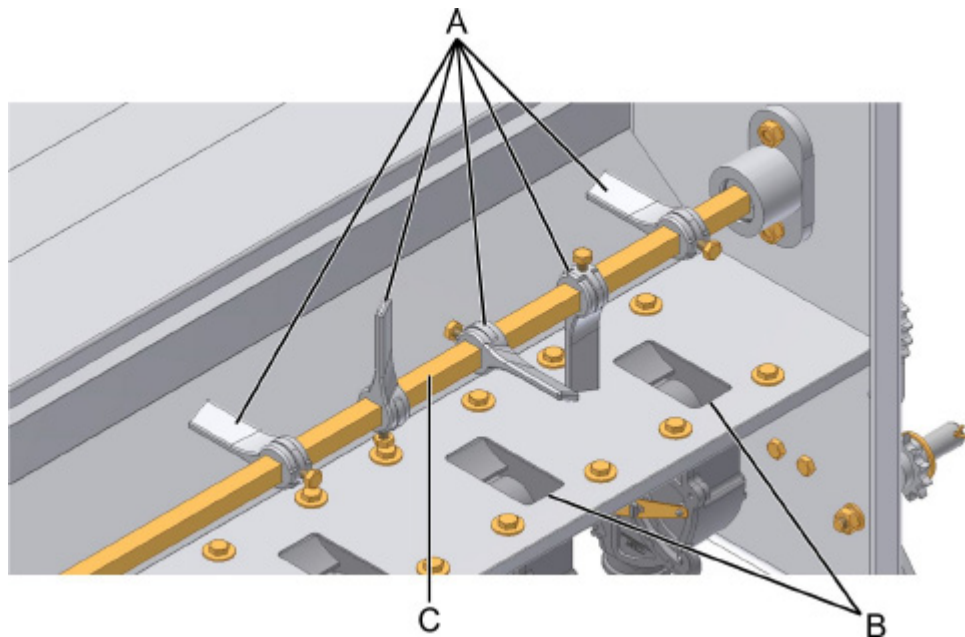
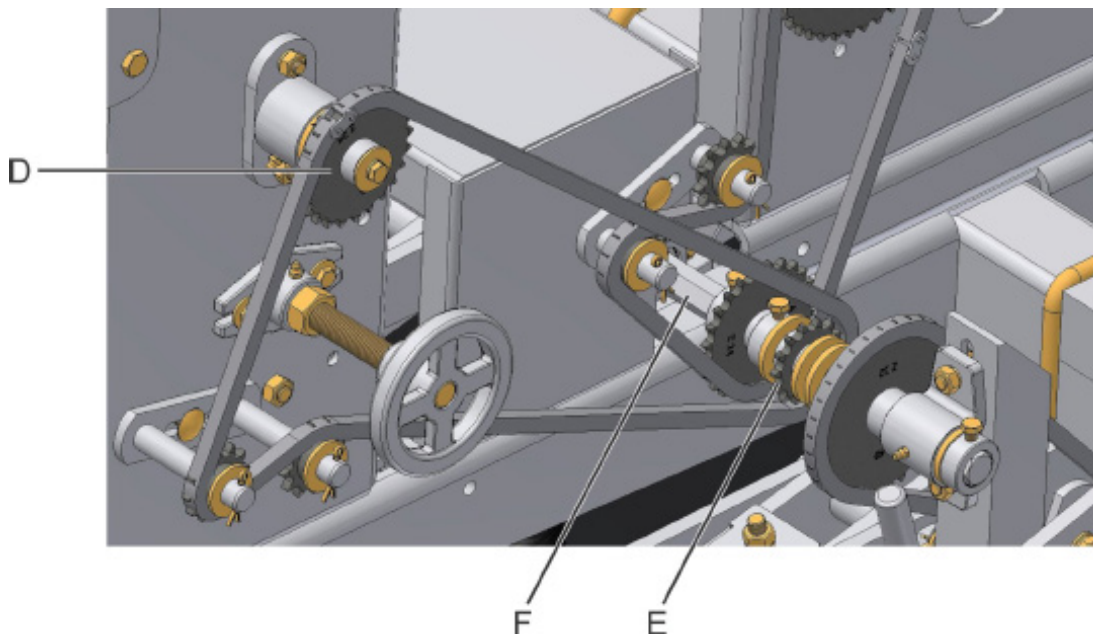

fig. 18
fig. 19
In order to move the wheat seeds, and favor the movement up to the rotor, maintain the stirrers (A) (fig. 18) in the assembly position as near as possible to the rotor opening window (B), maintain them in the assembly position at 90° as per assembly in (fig. 18).
The transmission of the shaft (C) (fig. 18) is executed by cogwheels (D) and (E) (fig. 19), driven by the transmission shaft (F).